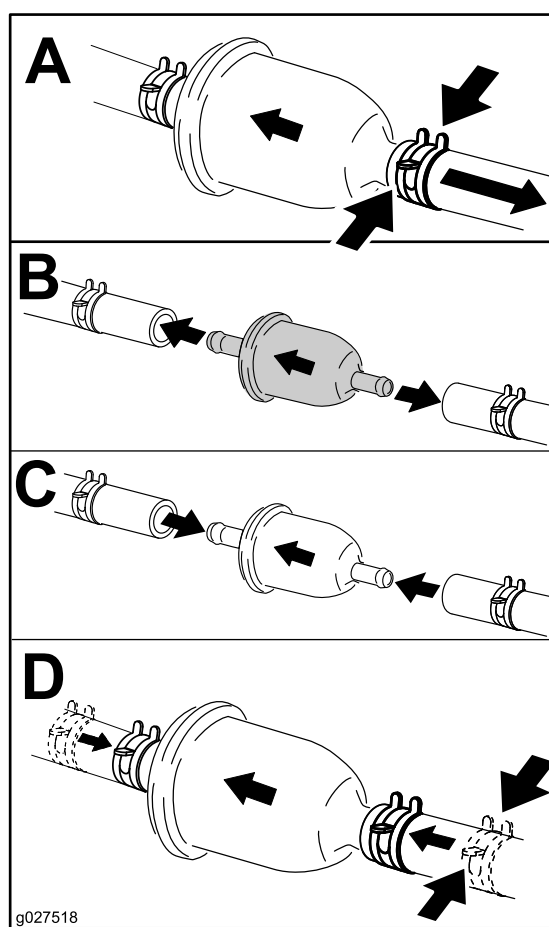

Figure 48
4. Replace the fuel filter as shown in Figure 48.